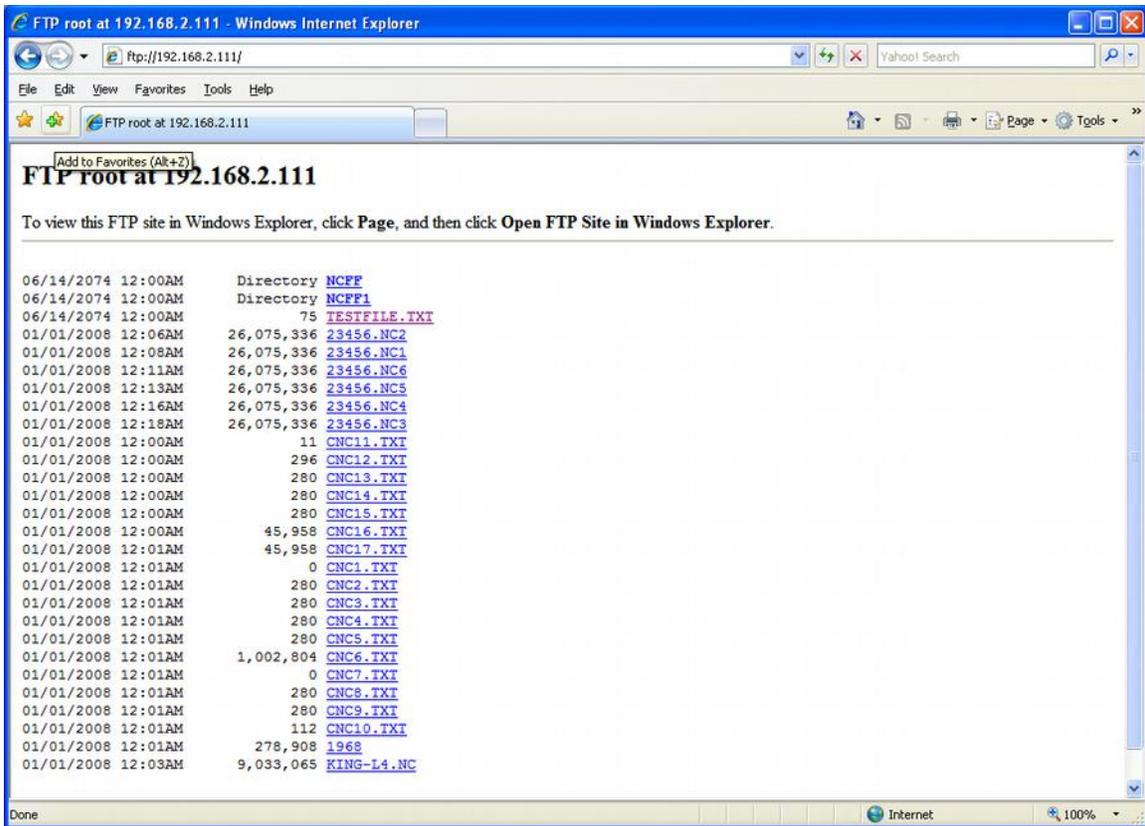

Figure 5
5. You may exit from the Control Panel. Start Internet Explorer and type ftp://192.168.2.111 in the address bar. A screen similar to the one shown in Figure 5 should appear. A number of files are loaded on the SD card when shipped for testing purposes. A message will appear "To view this FTP site in Windows Explorer, click Page, and then click Open FTP Site in Windows Explorer".